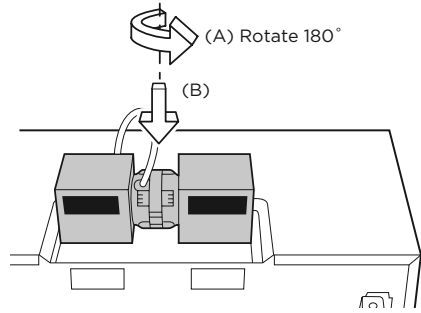

Figure 9
- Rotate the Hood Fan Unit 180° so that the fan blade openings are facing the back of the oven. Note, you will need to lift the wire over the hood fan unit so the wire will clear. See Figure 9 (A). Replace Hood Fan Unit into the oven. Be careful not to pinch the wire and the Hood Fan Unit. See Figure 9 (B).